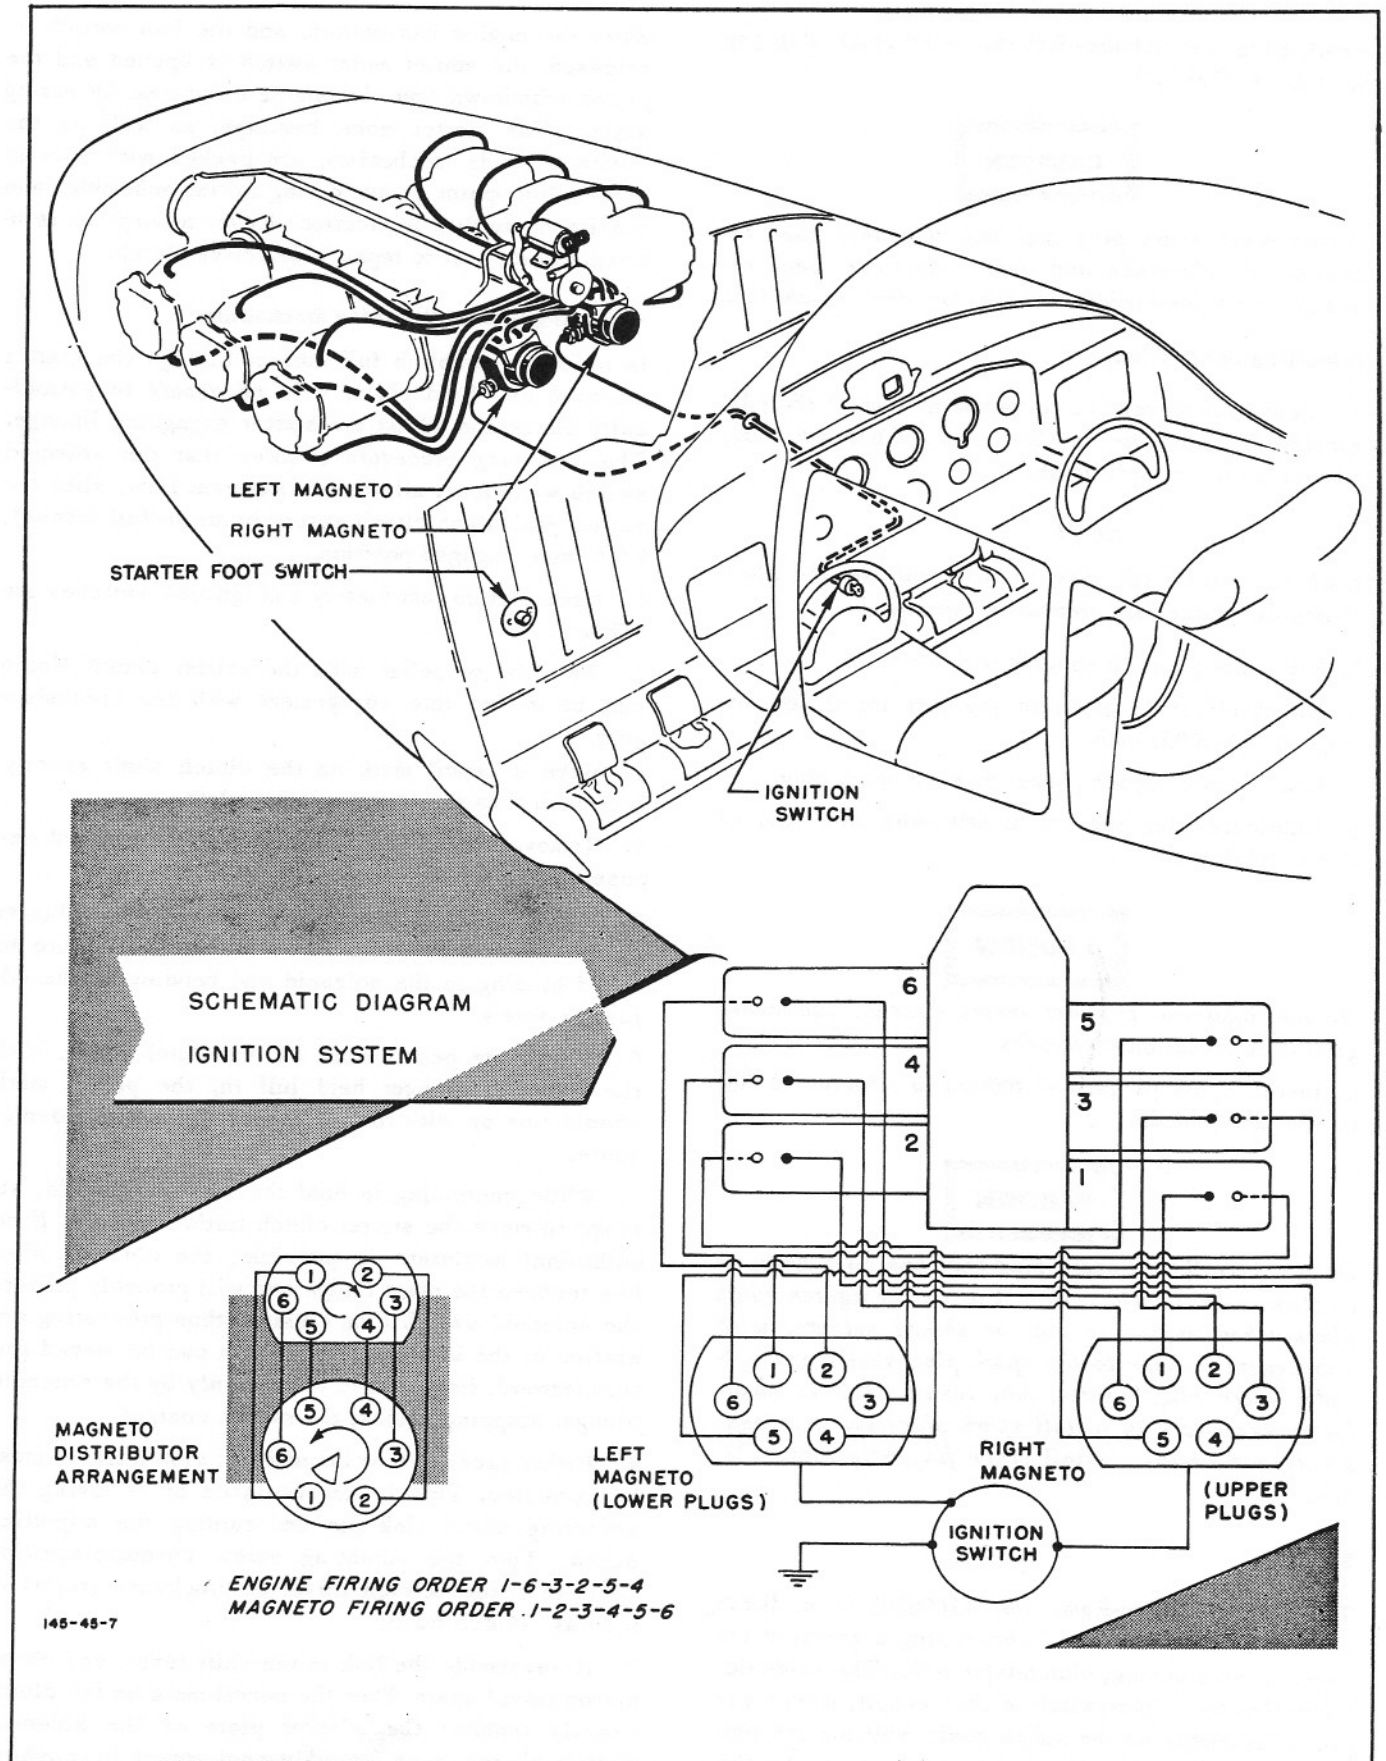

Figure 40 - IGNITION AND STARTER SYSTEM
2. Check breaker point gap setting and adjust, if necessary; then turn magneto rotor shaft opposite to direction of rotation, to avoid engagement of impulse starter, until distributor rotor electrode is centered in the No. 1 cable position, which is at approximately 7 o'clock. (See figure 40.)